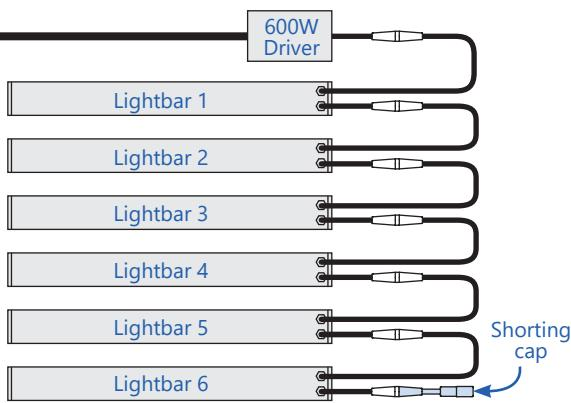

Figure 1
For ML300 (see Fig. 1)
- ① Turn OFF power to driver.
- ② Remove the shorting cap from the last lightbar in the line (e.g. #6 Lightbar in Figure 1).
- ③ Connect shorting cap to Lightbar#5. Turn driver power ON.
- ④ If all lightbars turn on, then Lightbar#6 is faulty.
- ⑤ If all lightbars are still off, turn power OFF to driver. Move shorting cap to Lightbar#4. Turn Power ON.
- ⑥ If all lightbars turn on, then faulty lightbar if either #5 or #6. Turn power OFF to driver.
- ⑦ Connect Output of Lightbar#4 to input of Lightbar#6. Turn power ON.
- ⑧ If all lightbars turn on, then the faulty lightbar is #5.